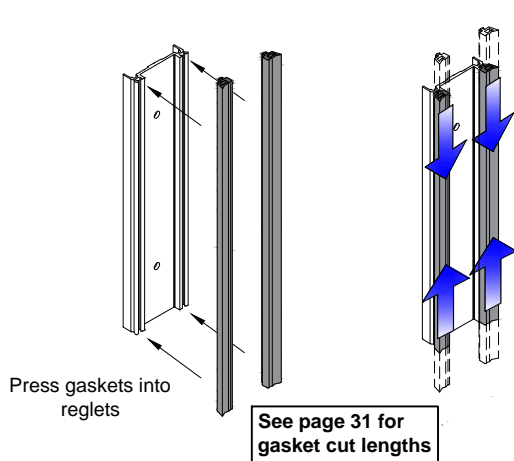

Fig. 41.2
- Install P4606 gasket into vertical mullions. See Fig. 41.2 and 42.1. Vertical mullion gaskets run beyond the horizontals.